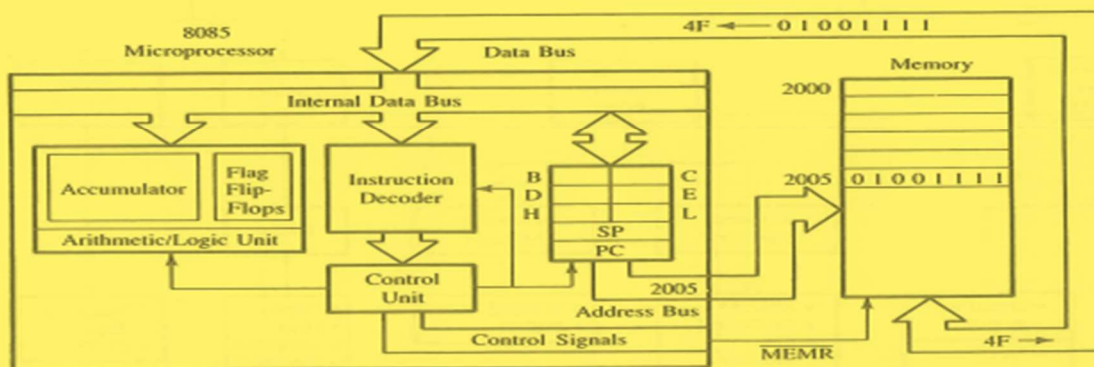

FIGURE 3.12 Instruction Fetch Operation
1. The program counter places the 16-bit address 2005H of the memory location on the address bus (Figure 3.12).
Figure 3.12 shows how the 8085 MPU fetches the instruction using the address, the data, and the control buses. Figure 3.12 is similar to Figure 3.2, Memory Read operation, except that Figure 3.12 shows additional details.